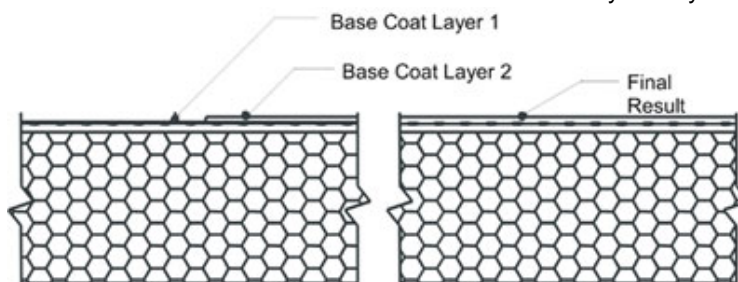

Figure 32
- a. The I.S. Base Coat shall be applied such that the resulting overall minimum base coat thickness is sufficient to **fully embed** the reinforcing mesh. The recommended method is to apply the base coat in two (2) passes.
- 3) Allow the I.S. Base Coat mixture to take up until firm to the touch. Trowel a second tight coat of the I.S. Base Coat mixture over the first coat to **fully cover** the I.S. Reinforcing Mesh - Figure 32. The result should be such that the I.S. Reinforcing Mesh is approximately centered within the I.S. Base Coat thickness. Do not allow the first pass to completely dry prior to the second pass application or an excessive amount of the I.S. Base Coat mixture will be necessary to fully coat the wall surface.